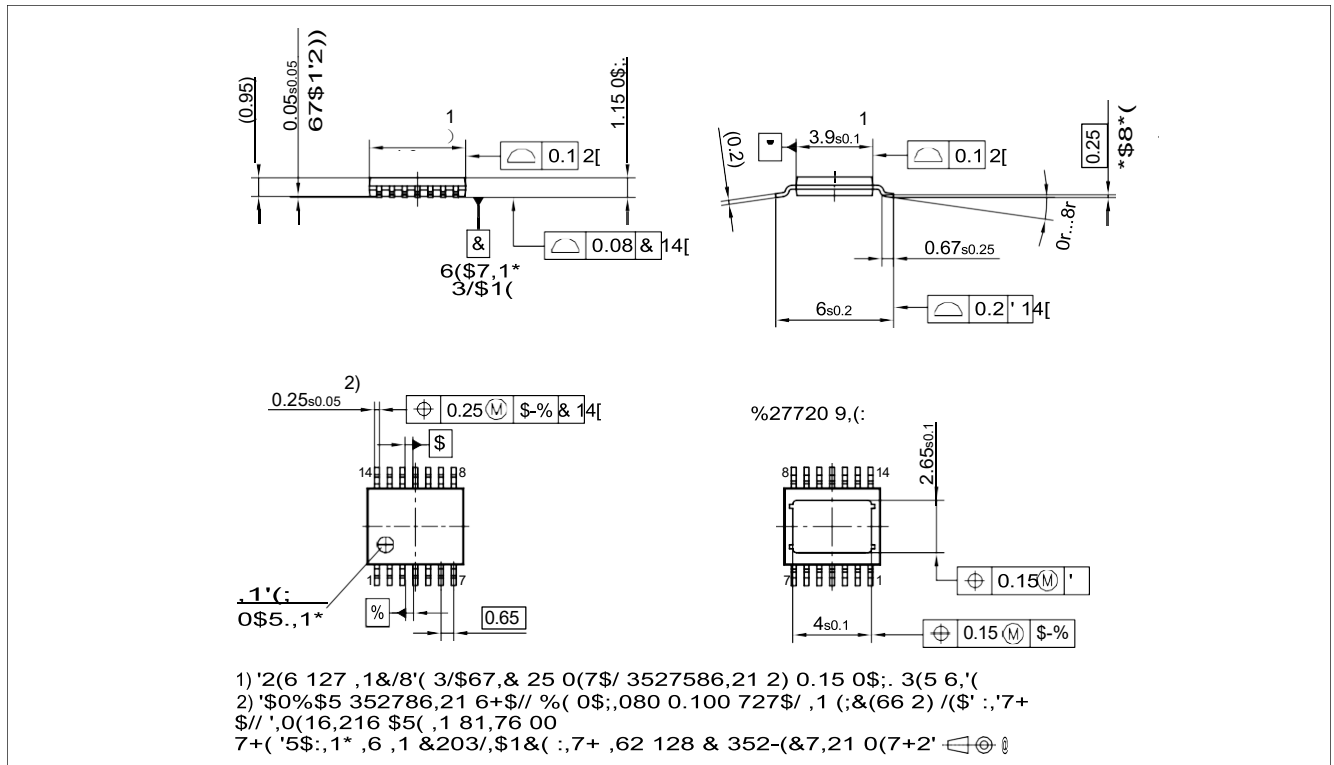
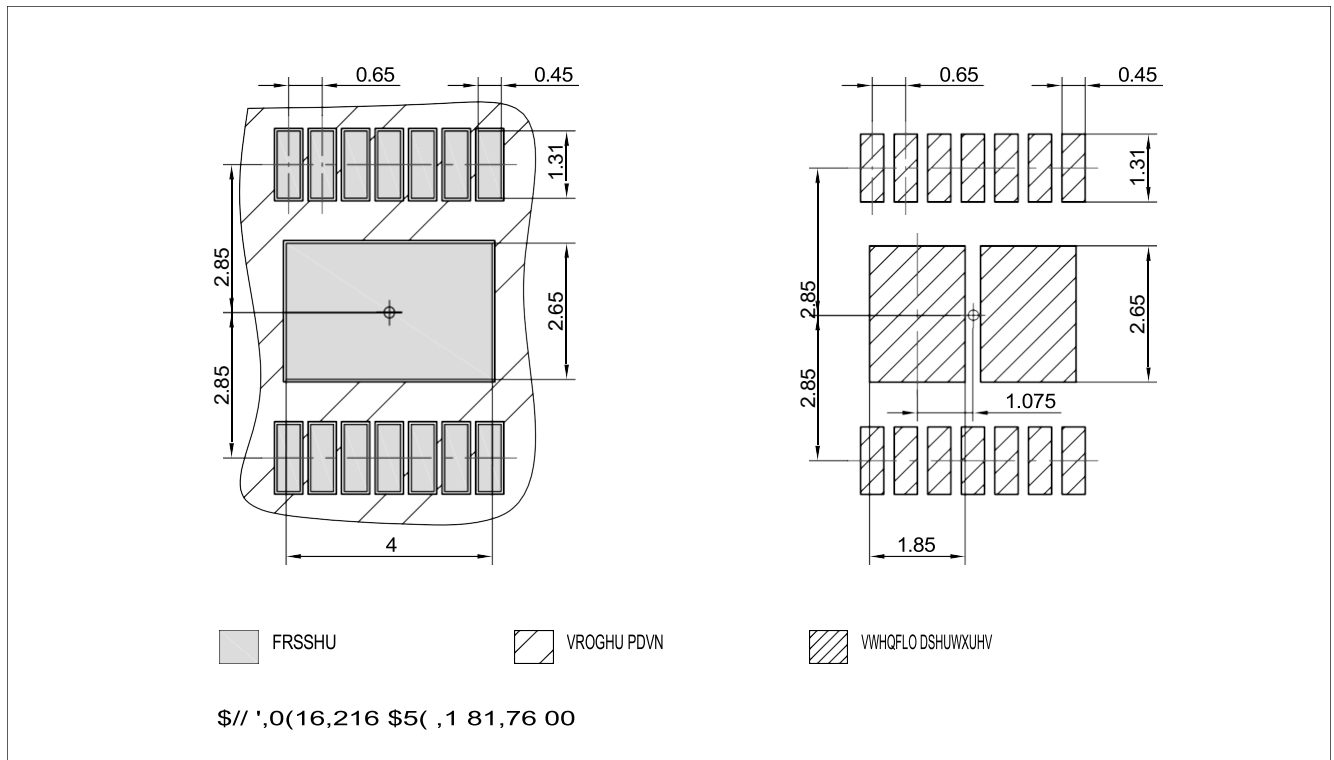

Figure 38 PG-TSDSO-14 (Thin (Slim) Dual Small Outline 14 pins) Package Outline
Figure 39 PG-TSDSO-14 (Thin (Slim) Dual Small Outline 14 pins) Package pads and stencil
1.02, 2019-02-05	<p>Figure 9, Figure 10 updated</p> <p>Page 1: updated (figure product) Table 22 updated (punctuation)</p> <p>Chapter 9.3, Chapter 9.3.1 updated (typo)</p> <p>Page 1: updated (Package PG-TSDSO-14-22 → Package PG-TSDSO-14)</p> <p>Figure 38 updated (PG-TSDSO-14-22 (Thin (Slim) Dual Small Outline 14 pins) Package Outline → PG-TSDSO-14 (Thin (Slim) Dual Small Outline 14 pins) Package Outline)</p> <p>Figure 39 updated (PG-TSDSO-14-22 (Thin (Slim) Dual Small Outline 14 pins) Package pads and stencil → PG-TSDSO-14 (Thin (Slim) Dual Small Outline 14 pins) Package pads and stencil)</p> <p>Table 1 updated (Parameter: Minimum Overvoltage protection (<math>T_J = 25\text{ °C}</math>) → Minimum Overvoltage protection (<math>T_J \geq 25\text{ °C}</math>))</p> <p>Table 1 updated (corrected typo in table Product Summary: <math>I_{VS(OFF)}</math>: 1 → 0.4 <math>\mu\text{A}</math>)</p> <p>Table 1 updated (Symbol: <math>I_{VS(OFF)}</math> → <math>I_{VS(OFF)_85}</math>)</p> <p>P_6.5.22.1 updated (Symbol: <math>I_{VS(OFF)}</math> → <math>I_{VS(OFF)_85}</math>)</p> <p>P_6.5.22.2 updated (Symbol: <math>I_{VS(OFF)}</math> → <math>I_{VS(OFF)_150}</math>)</p>